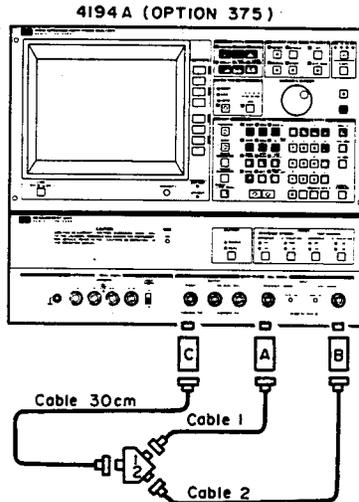

Figure 4-14. HP 11852A Insertion Loss Calibration Setup 4
17. Interchange **PADS A** and **B**, as shown in Figure 4-14.